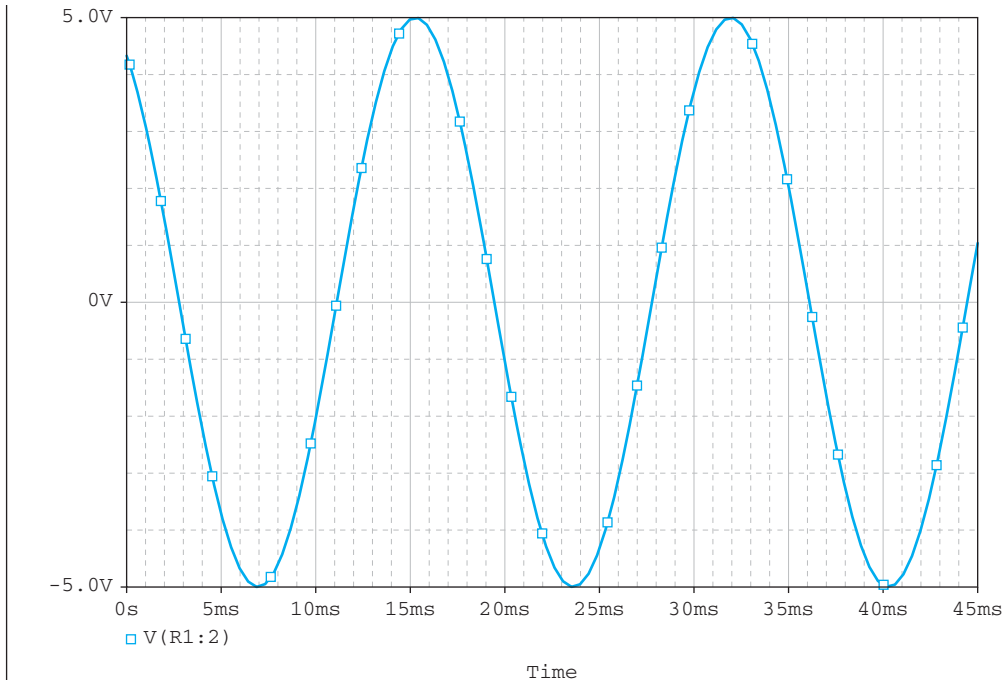

FIGURE 6.61 Sinusoidal voltage source across the resistor plot.
- 7. The voltage across the resistor plot is shown in Figure 6.61.